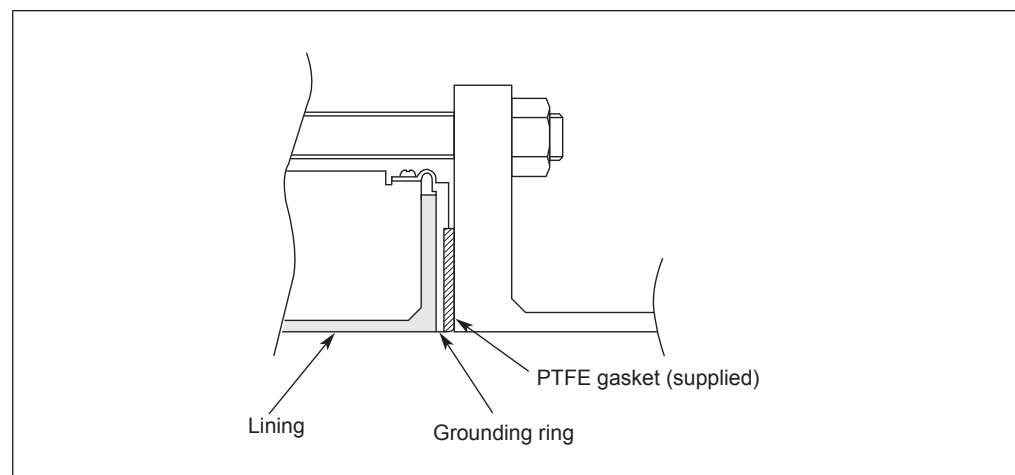

Fig. 2-17. Installation using the grounding ring of Non-SUS material
1. Use this method to install the detector with the specified fastening torque. Install the detector as shown in Fig. 2-17. See Table. 2-1 on page 2-8 for the appropriate fastening torque.